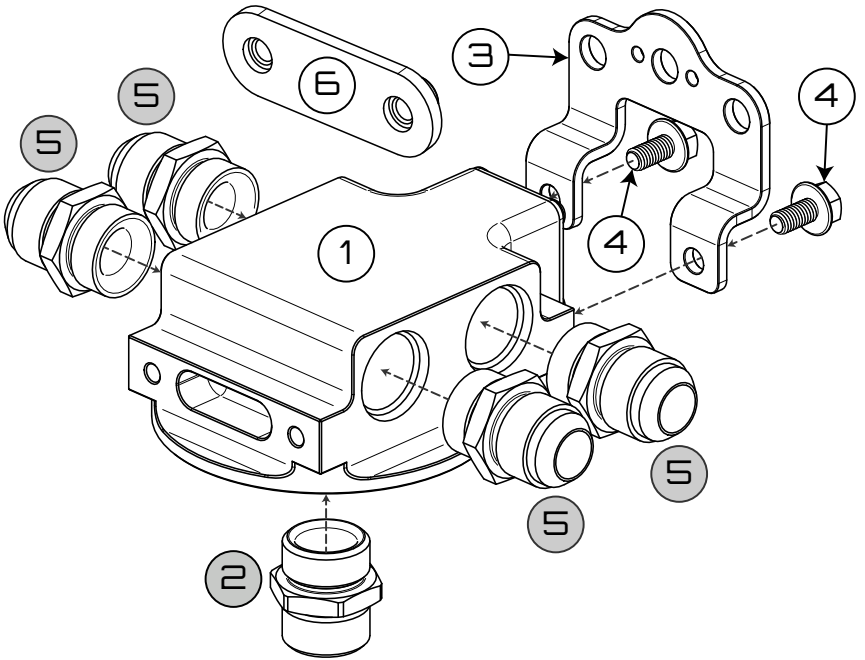
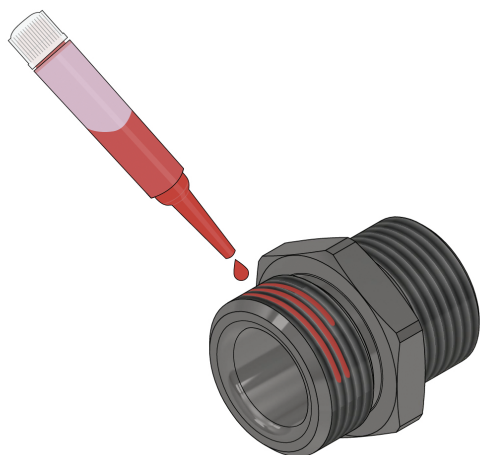

Figure 1 - ENV-170 Schematic
Figure 6 - Apply Thread Locker to the Short End of the Filter Screw
2. Apply the high-strength thread locker to the threads on the **SHORT END ONLY** of the HSC-10XX filter screw (Item # 2 in Figure 1) as shown in Figure 6.